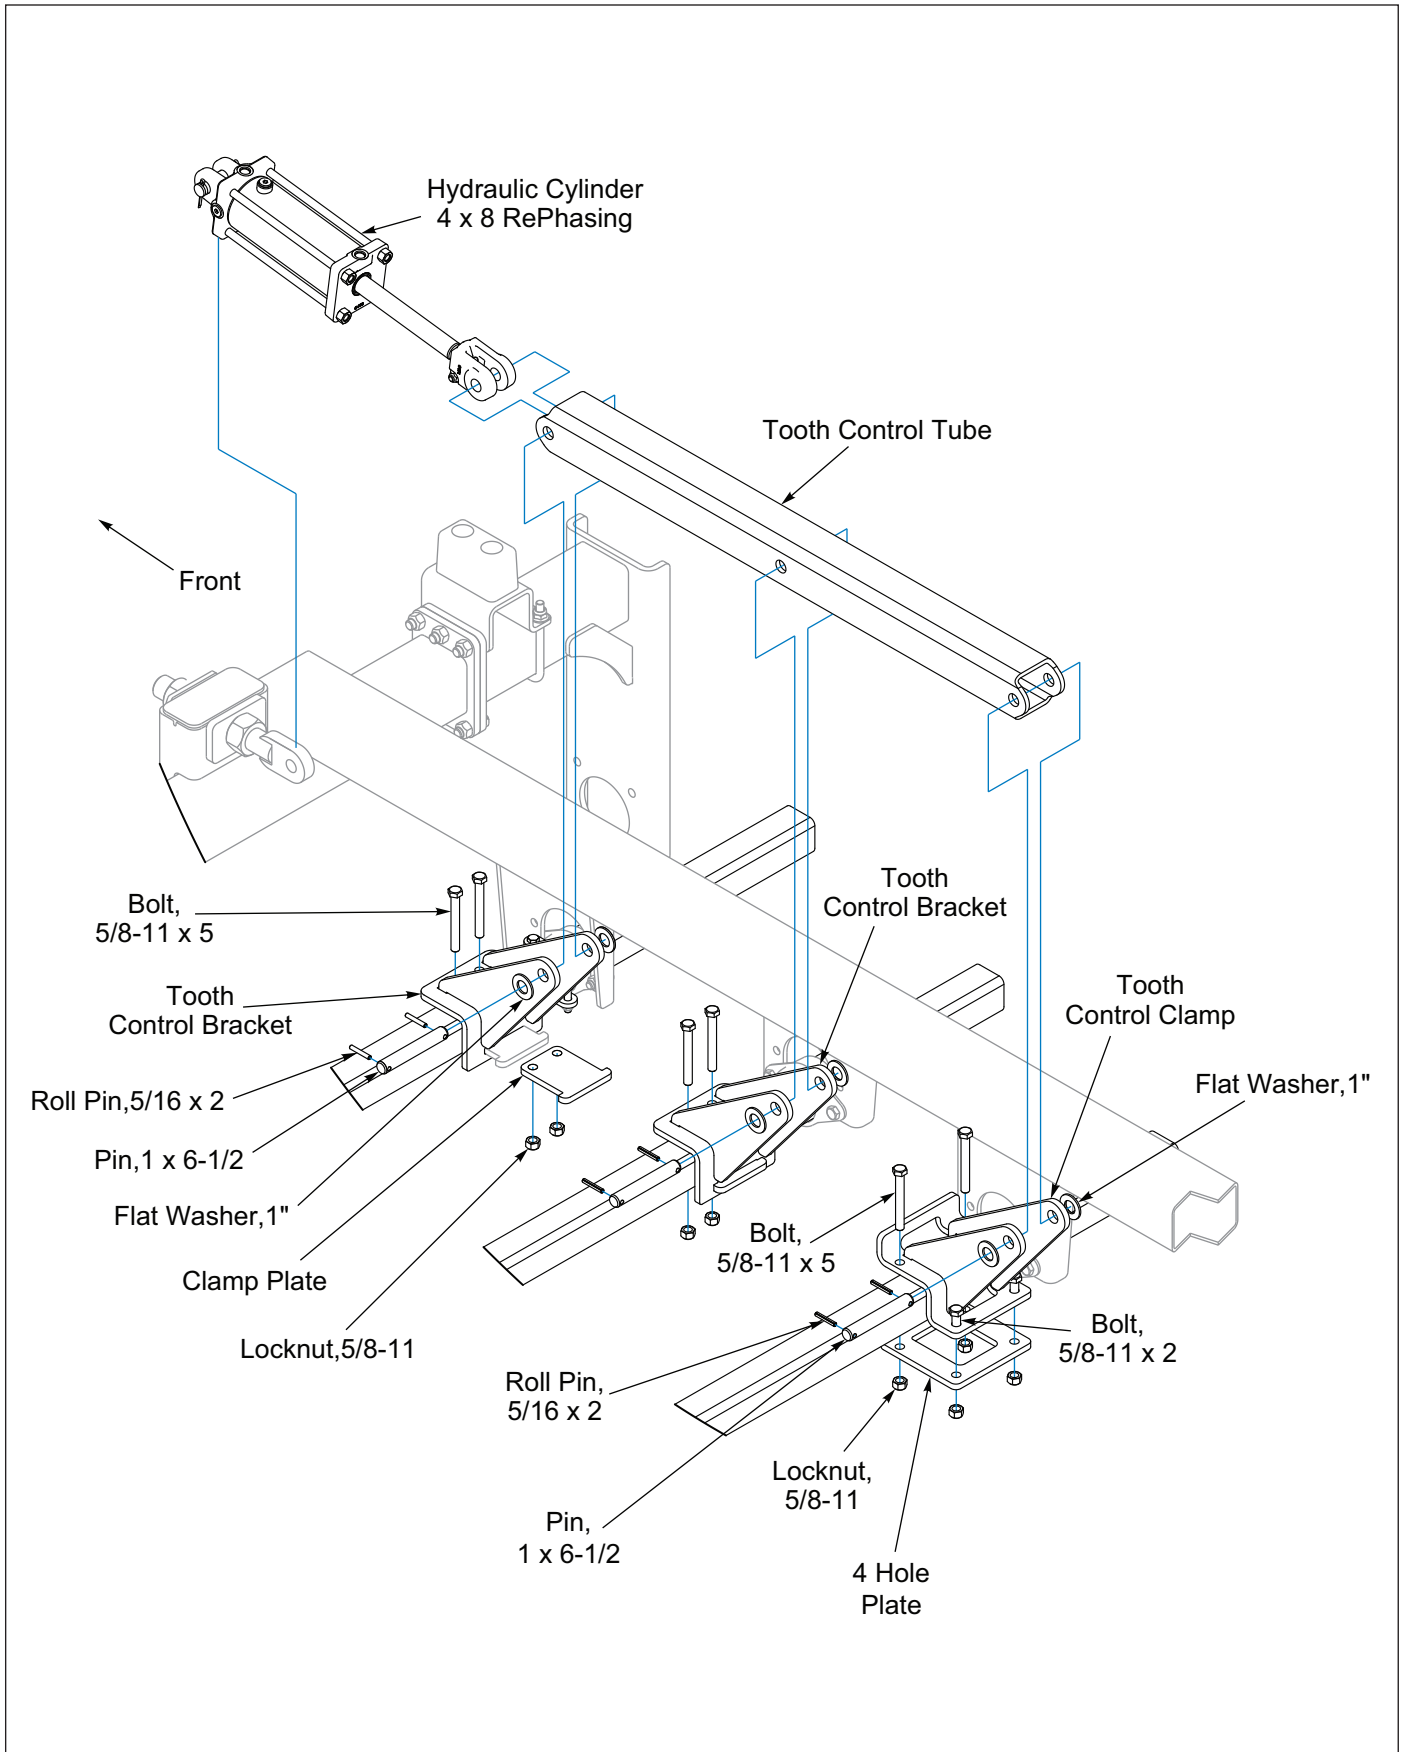

Figure 2-58: Right Hand Wing Tooth Control
1. Attach a Tooth Control Bracket on the top of the right Front Tooth Tube by sliding a Clamp Plate into the Tooth Control Bracket Slot and under the Tooth Tube. Fasten with 5/8-11 x 5 Bolts and Locknuts, **Do Not** tighten at this time. **See Figure 2-58.**